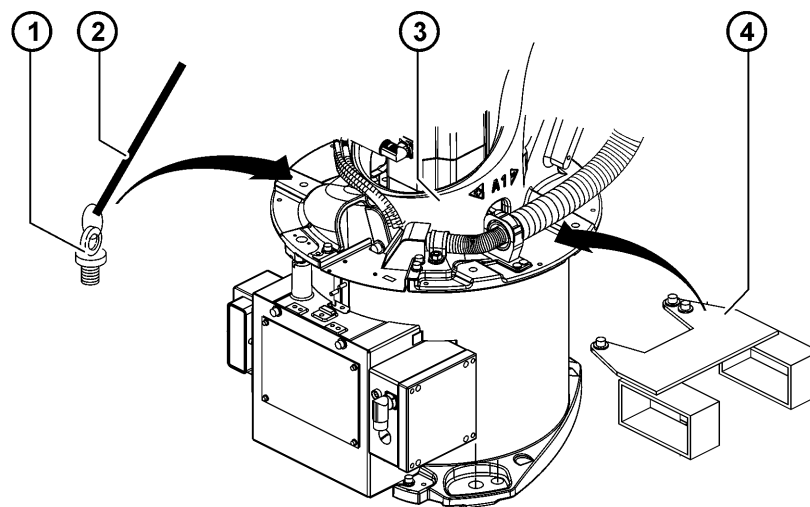

Fig. 8-5: Transporting the robot during installation
- The eyebolts and lifting tackle (00-154-134) or the fork slots are attached to the robot (>>> Fig. 8-5).